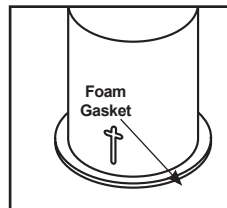

Figure 3
Step 2. Locate Air-Loc gasket kit envelope supplied in fixture carton (no Air-Loc gasket for 4"). Place foam gasket on the top surface of the metal ring of can (Fig 3).